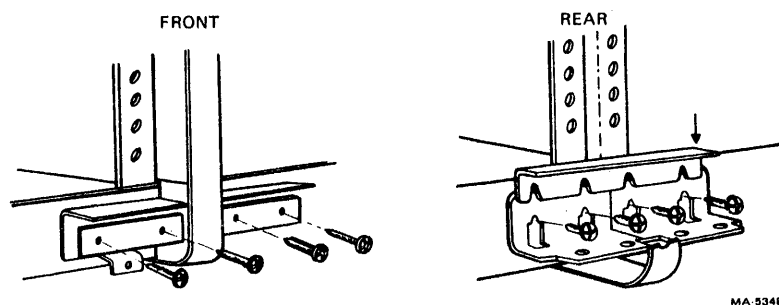

Figure 2-11 H9646 Interconnecting Bars
5. Install the front and rear interconnecting bars as shown in Figure 2-11.